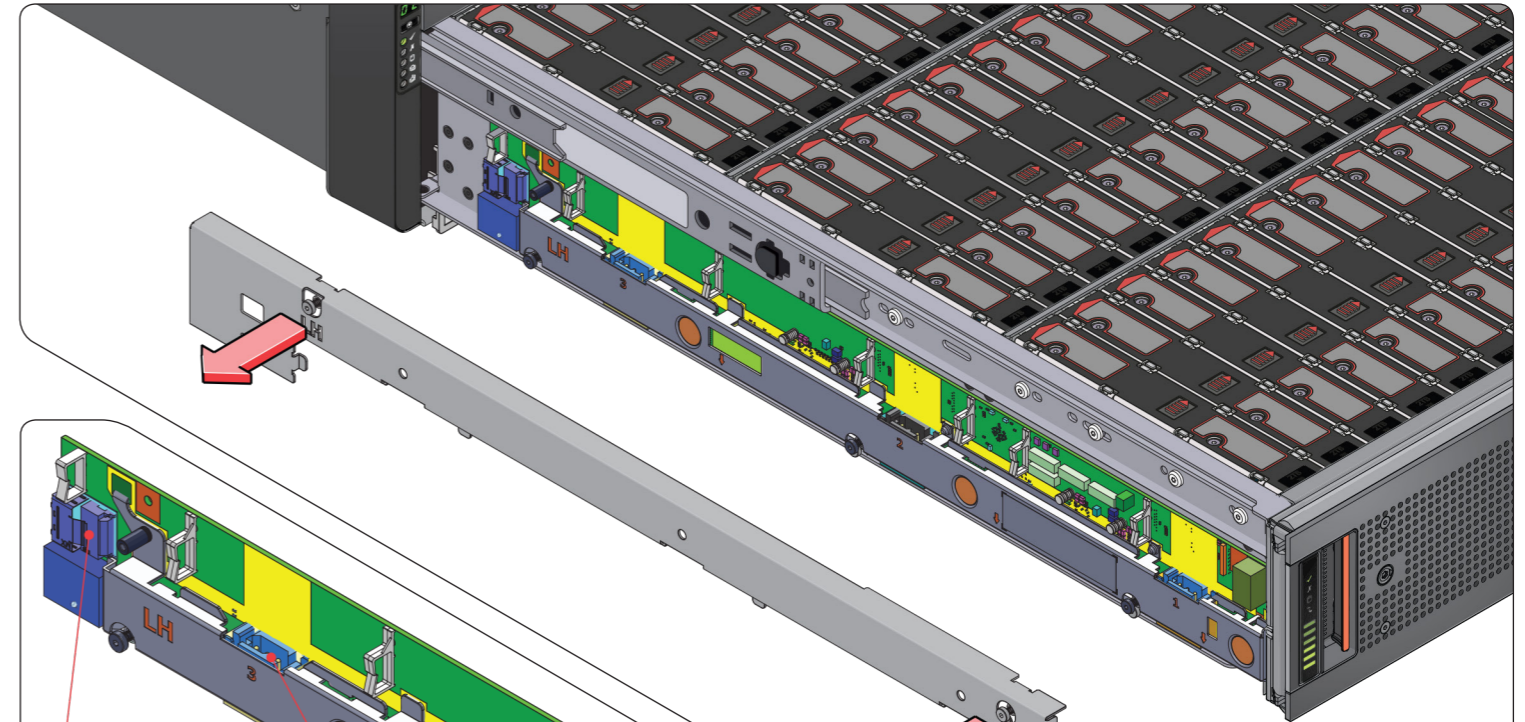

Figure 5: Upper sideplane cover removal
1. Fully loosen both captive screws at each end of the top cover, unclip from lower cover and remove (Figure 5).